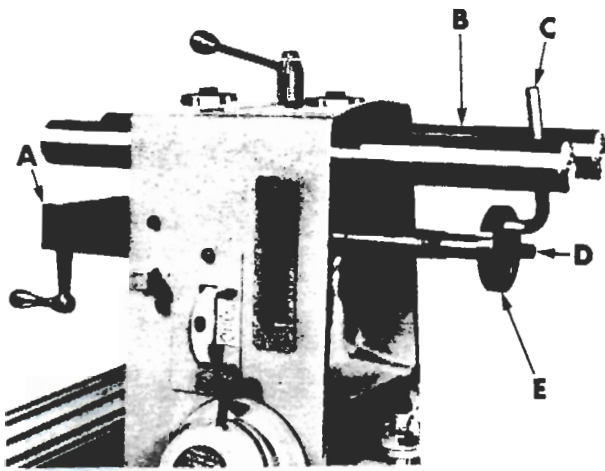

Figure 26
24. Insert puller crank screw (D, fig. 26) thru bracket (A) and spindle.
25. Screw puller collar (E) on crank screw (D) and lock in place with wrench (C) -- move overarms (B) until they engage wrench.
26. Turn crank screw (D) until spindle is pulled from rear bearing.